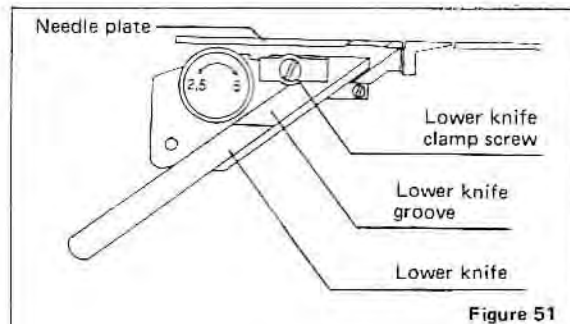

Figure 51
2. Loosen the lower knife clamp screw counter-clockwise (Figure 51).